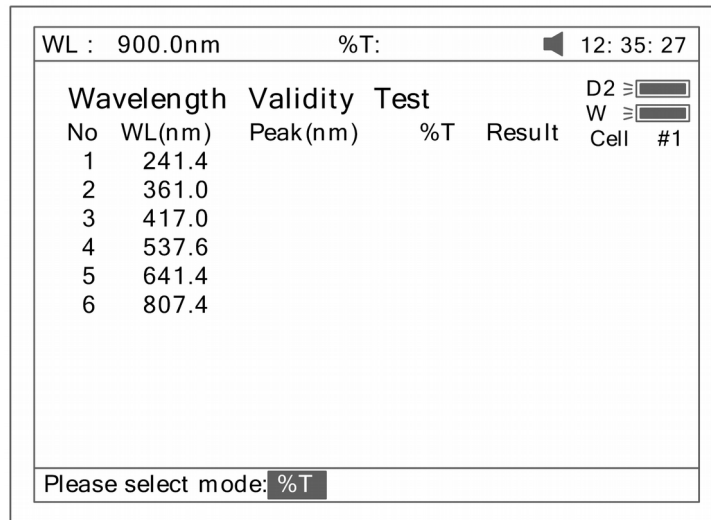

Fig 97
2. Press **(F2)** to select test mode (Abs or %T, Fig 97).